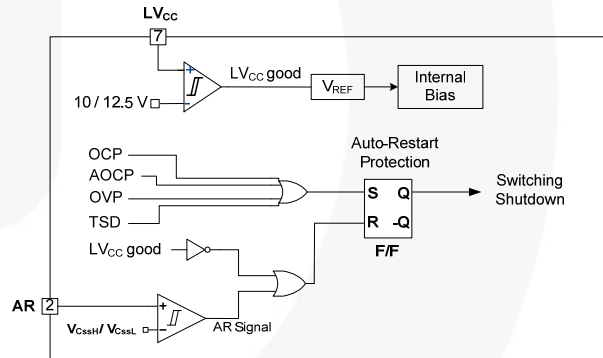

Figure 22. Protection Blocks
**5. Protection Circuits:** The FSFR-XS series has several self-protective functions, such as Over-Current Protection (OCP), Abnormal Over-Current Protection (AOC), Over-Voltage Protection (OVP), and Thermal Shutdown (TSD). These protections are auto-restart mode protections, as shown in Figure 22.